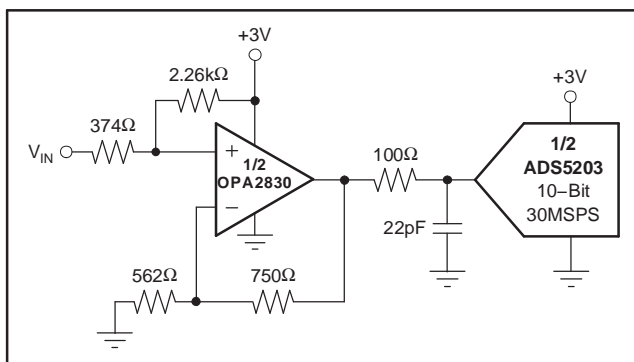
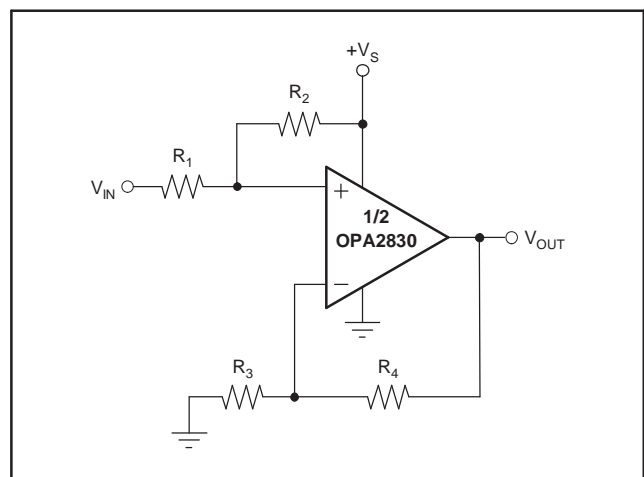

Figure 73. DC-Coupled, +3V ADC Driver
Figure 74. DC Level-Shifting
The ADC interface of Figure 73 shows a DC-coupled, single-supply ADC driver circuit. Many systems are now requiring +3V to +5V supply capability of both the ADC and its driver. The OPA2830 provides excellent performance in this demanding application. Its large input and output voltage ranges and low distortion support converters such as the ADS5203 shown in the figure on page 1. The input level-shifting circuitry was designed so that  $V_{IN}$  can be between 0V and 0.5V, while delivering an output voltage of 1V to 2V for the ADS5203.
Figure 74 shows the general form of Figure 73 as a DC-coupled noninverting amplifier that level-shifts the input up to accommodate the desired output voltage range. Given the desired signal gain (G), and the amount  $V_{OUT}$  needs to be shifted up ( $\Delta V_{OUT}$ ) when  $V_{IN}$  is at the center of its range, the following equations give the resistor values that produce the desired performance. Assume that  $R_4$  is between 200Ω and 1.5kΩ.
The circuit of Figure 73 is a good example of this type of application. It was designed to take  $V_{IN}$  between 0V and 0.5V and produce  $V_{OUT}$  between 1V and 2V when using a +3V supply. This means  $G = 2.00$ , and  $\Delta V_{OUT} = 1.50V - G \cdot 0.25V = 1.00V$ . Plugging these values into the above equations (with  $R_4 = 750\Omega$ ) gives:  $NG = 2.33$ ,  $R_1 = 375\Omega$ ,  $R_2 = 2.25k\Omega$ , and  $R_3 = 563\Omega$ . The resistors were changed to the nearest standard values for the circuit of Figure 73.